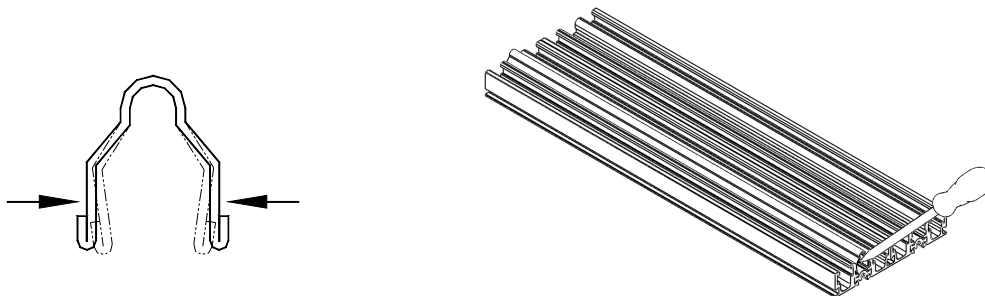

Figure 25:
1. Using a pair of pliers, slightly squeeze the track together at one end and pull up with a screw driver (Figure 25).